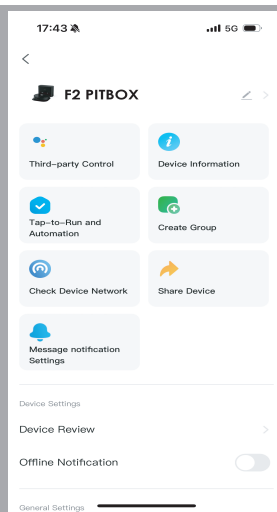

Fig. 19
F). Click the icon  on the main interface and enter Fig.19, users can perform more about F2 Pitbox Pro, such as connecting to the third party (Google assistant, Alexa etc), share device or update the firmware,etc.